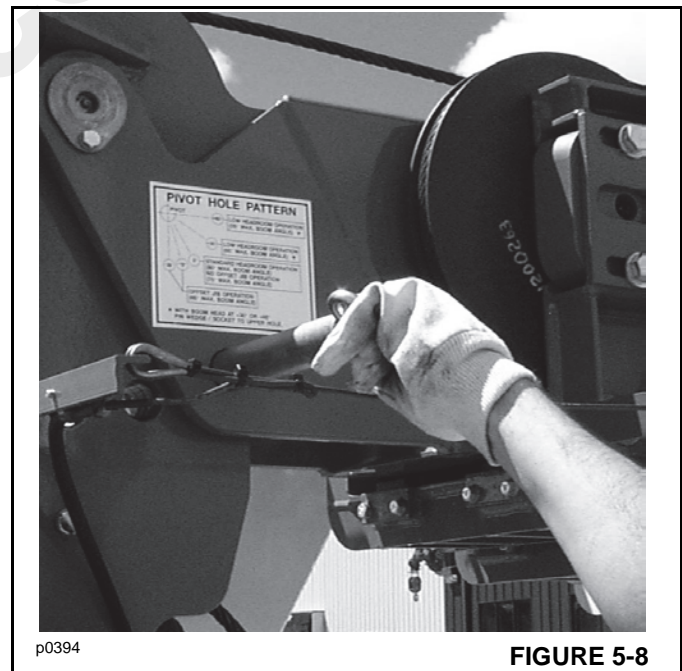

FIGURE 5-8
5. With the boom extension supported, remove the pivot lock pin (Figure 5-8). It will be necessary to remove the boom extension weight on the pin in order to remove it.